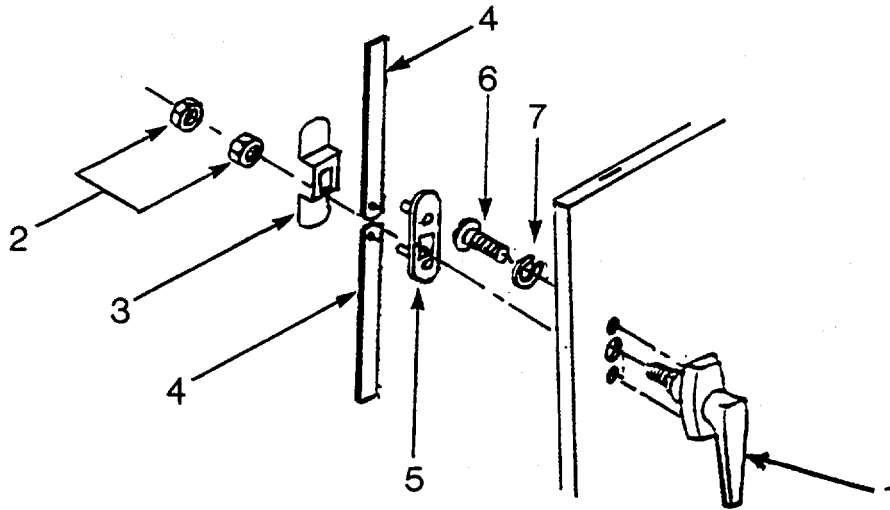

Figure 4-20. Water Supply Cabinet Assembly Handle
- (1) Inspect water supply cabinet on curbside of darkroom for dents, cracks, and security of mounting.
- (2) Inspect water supply cabinet welding for breaks or separation of seams.
- (3) Inspect doors and door hinges for ease of operation and proper closing.
- (4) Inspect door handle and latching mechanism for ease of operation and ability to secure doors.
**b. Repair. (See Figure 4-20.)**
- (1) Remove water supply cabinet dents and straighten door and panels.
- (2) Repair breaks and separation of seams by minor welding.
- (3) Replace door handle assembly.
- (a) Remove door handle assembly (1) by removing nuts (2) and retainer plate (3).
- (b) Remove rods (4) and backing plate (5).
- (c) Remove bolts (6), star washers (7), and door handle assembly (1).
- (d) Install replacement door handle assembly (1) and secure with star washers (7) and bolts (6).
- (e) Install backing plate (5), rods (4), retainer plate (3) and secure with nuts (2).